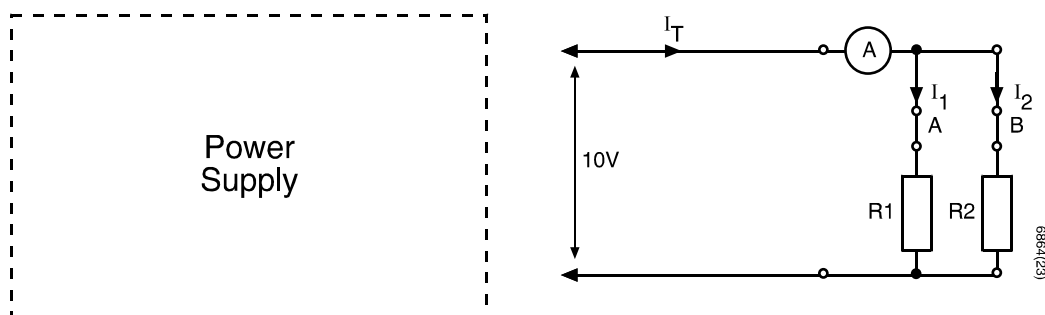

Figure 24
- a. Connect the circuit as shown in figure 24 and select 1 kΩ resistors for R₁ and R₂.